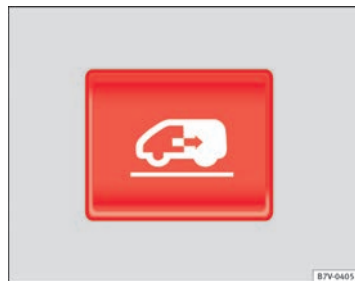

Fig. 51 On the dash panel, on the remote control key and on the interior lining of the sliding door: Button for opening and closing the electric sliding door
Opens the sliding door electrically.	Press the ⇒ Fig. 51 button on the dash panel, on the remote control key and on the interior lining of the sliding door. The sliding door opens with the rollback anti-trap function as long as the button is not pressed again. Pull briefly on the interior or exterior handle the door. The sliding door opens automatically.
Closing the sliding door electrically.	Press the ⇒ Fig. 51 button on the dash panel, on the remote control key and on the interior lining of the sliding door. The sliding door closes with the rollback anti-trap function as long as the button is not pressed again. As it closes, a warning sound is given. Pull briefly on the interior or exterior handle the door. The sliding door closes with the roll-back function. As it closes, a warning sound is given.
- Press and hold the  ⇒ Fig. 51 button. **The sliding door closes with full force.**